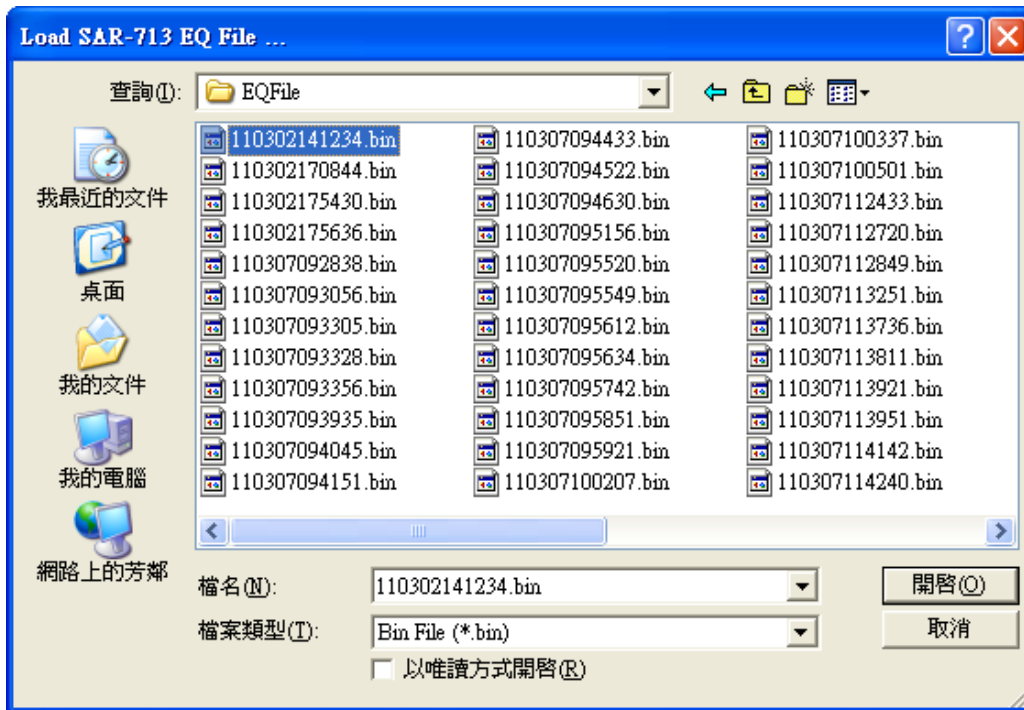
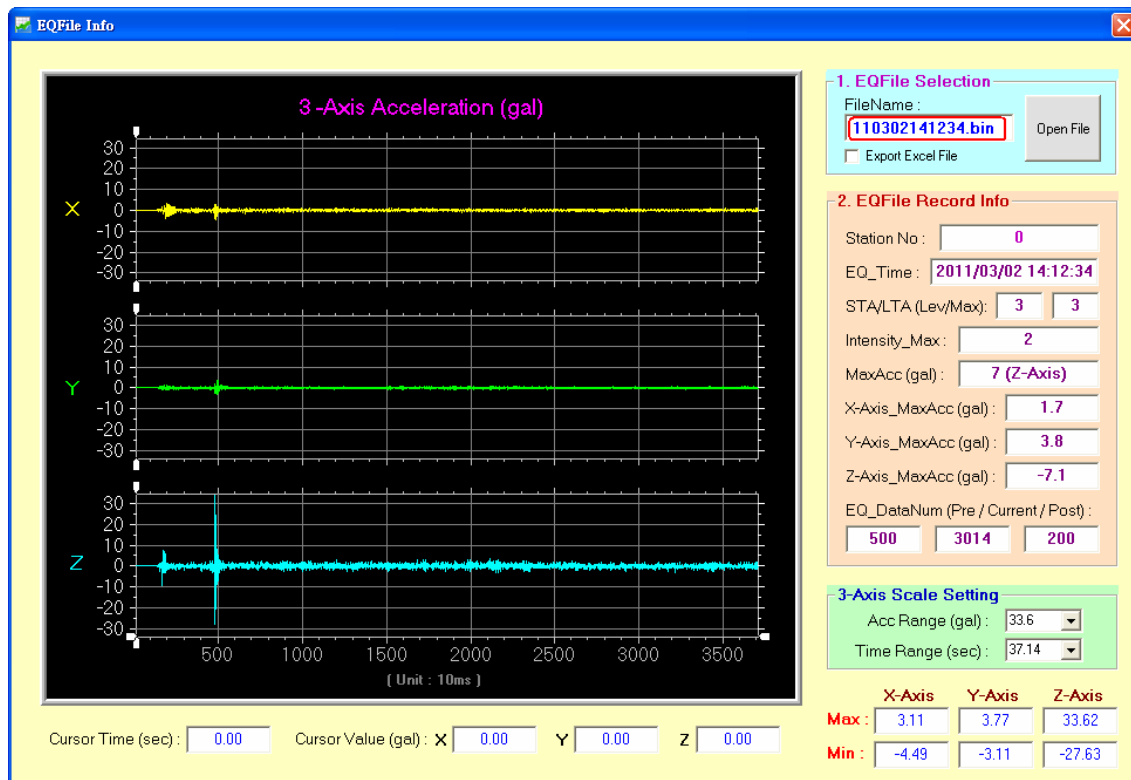

Fig 5.4-3 Assign the Earthquake File
Fig 5.4-4 Show the Information of Earthquake File
- (2) Click “Open File” button in the “EQFile Selection” frame and choose the earthquake file (*.bin) like Fig 5.4-3. The information recorded in earthquake file will be shown with trend and data format like Fig 5.4-4.